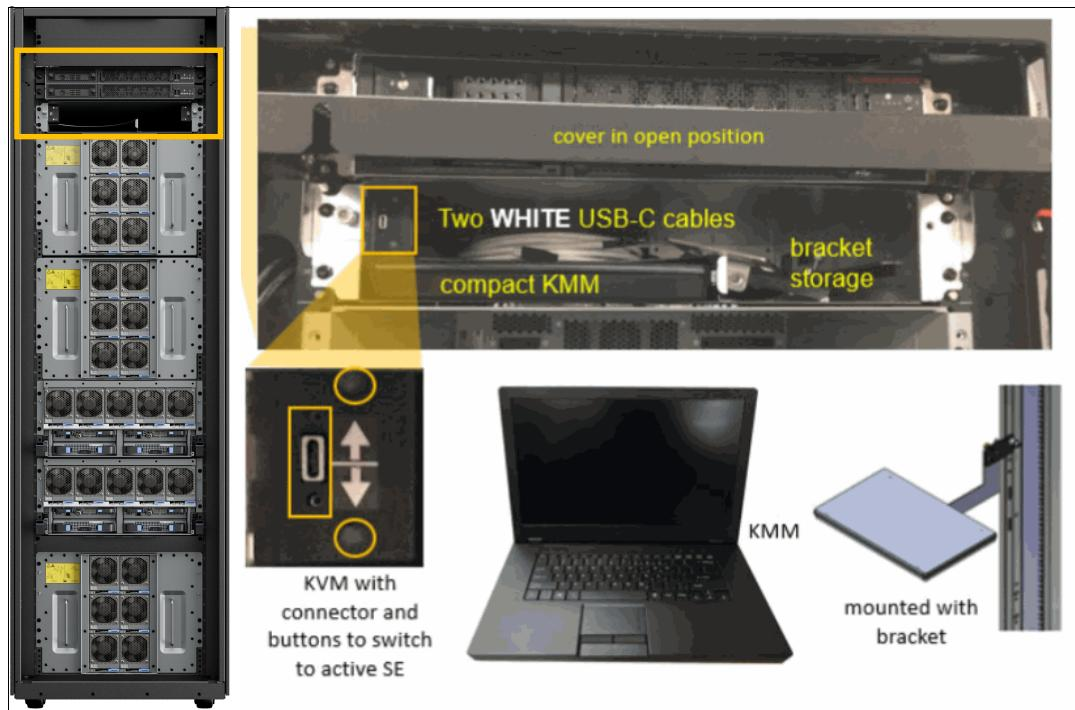

Figure 10-15 HMC / SE KMM device
The KMM device information for the IBM z16 A02 are shown in Figure 10-15 on page 407.
- ▶ Switching between servers is done by using buttons next to the USB-C port (see Figure 10-15 on page 407). The KMM screen also indicates which server is selected